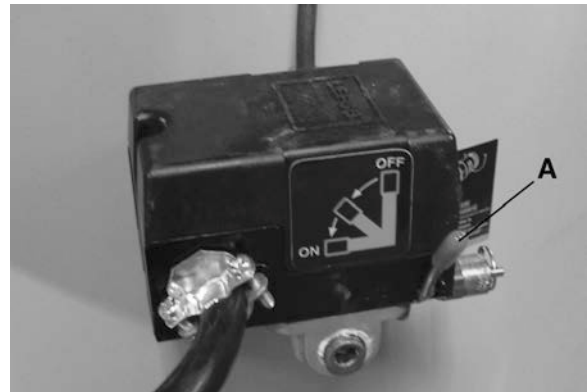

FIGURE 3
- 1) Make sure the pressure switch lever (A) Fig.3 is in the "OFF" position.